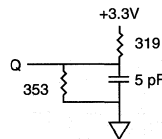

Fig. 2 OUTPUT LOAD EQUIVALENT
- t_{HZCE} and t_{HZWE} are specified with $C_L = 5pF$ as in Fig. 2. Transition is measured $\pm 200mV$ from steady state voltage.